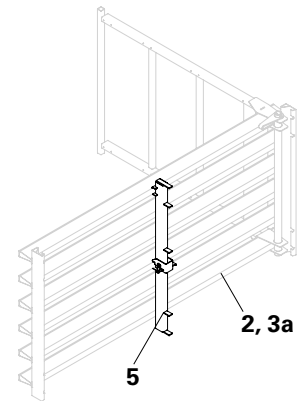

Fig. A7.06
4. Measure the distance between the props and the edge of the building and fit the Traverse GF 100 (5) accordingly. (Fig. A7.06)